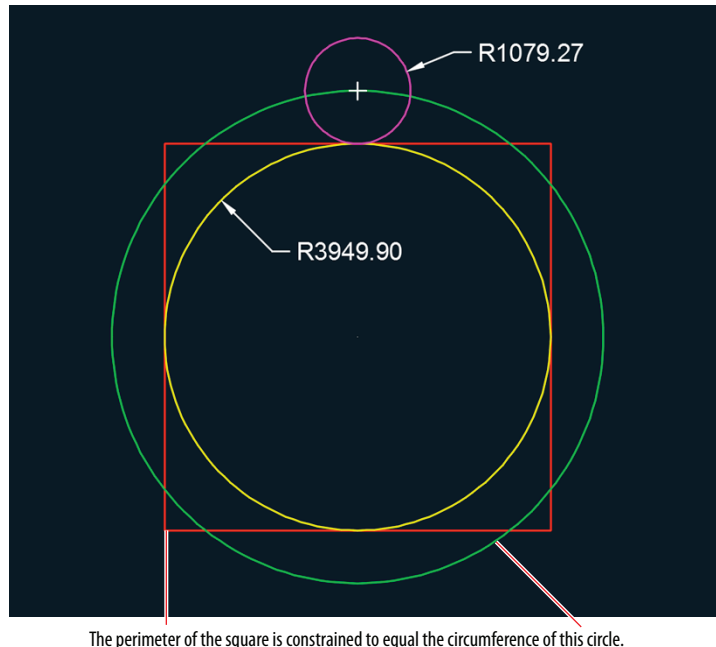

FIGURE 12.14 Dimensioning two radii in the squaring the circle diagram
8. Press the spacebar to repeat the DIMRADIUS (Dimension Radius) command. Select the magenta circle, and click a point outside the circle to locate the dimension object. Figure 12.14 shows the result.